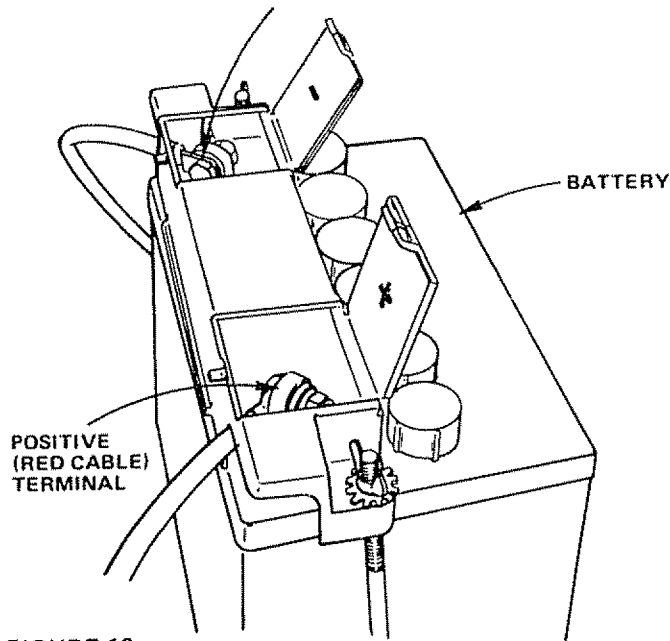

FIGURE 10
1. Connect each end of the RED cable to the POSITIVE (+) terminals of each battery (taking care not to short against chassis) (Fig 10).